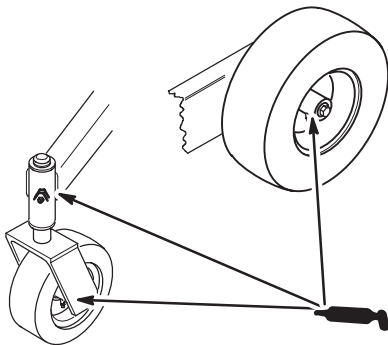

Figure 30
1. Lubricate the front wheel bearings and front spindles until grease begins to ooze out of the bearings (Fig. 30).
2. Remove rear wheel grease cap. Lubricate the rear wheel bearing (Fig. 30).
1. Lubricate the transmission couplers located in the back of the machine (Fig. 30).